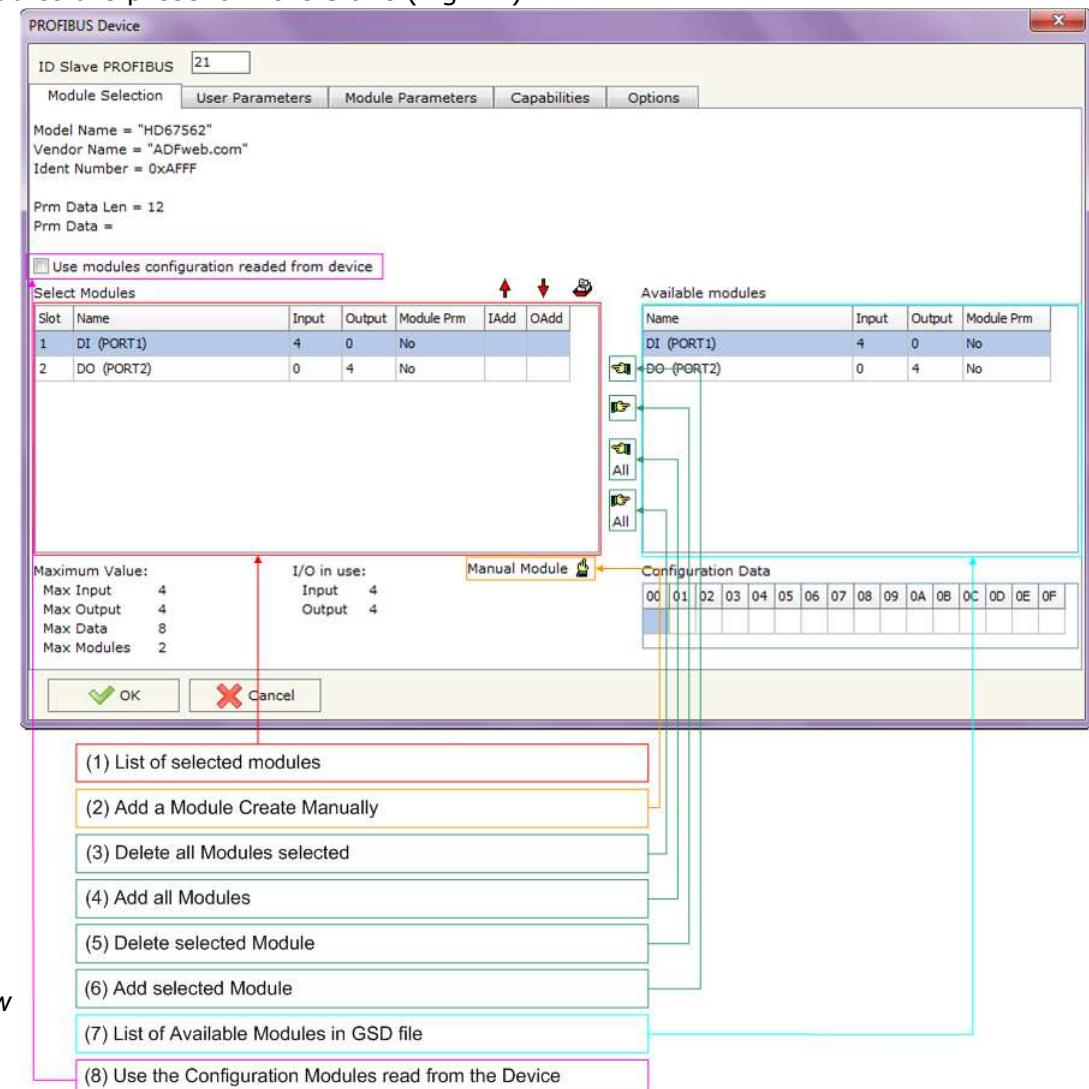
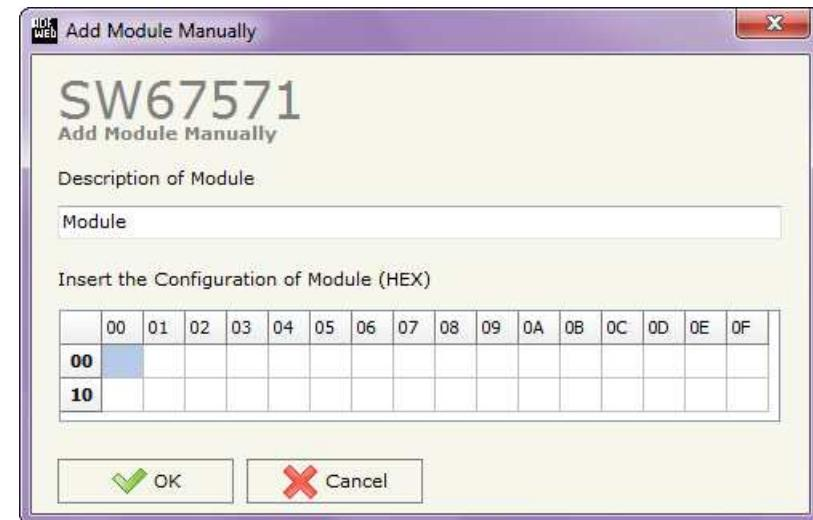

Figure 11: “PROFIBUS Device – Module Selection” window
Figure 12: “Add/Modify Module Manually” window
The section “**Module Selection**” is used to select which Modules are present in the Slave (Fig. 11).
- ◆ Check the list of the Modules selected (“Select Modules”) (Fig. 11, point (1)) and the list of Modules Available in GSD file (“Available Modules”) (Fig. 11, point (7));
- ◆ Add a Module from the list of GSD file (Fig. 11, point (6));
- ◆ Remove a Module from selected list (Fig. 11, point (5));
- ◆ Add all Modules present in the GSD file (Fig. 11, point (4));
- ◆ Remove all Modules from selected list (Fig. 11, point (3));
- ◆ Insert a Module not present in the GSD file (“**Manual Module**”) (Fig. 11 point (2)). For more info see the section “Manual Module” below;
- ◆ Enable the read of configuration directly from the PROFIBUS Slave (“**Use module configuration readed from device**”) (Fig 11, point (8)). If this option is enable the configuration of the modules is discarded and the device read the correct configuration directly to the PROFIBUS slave.
By pressing the “**Manual Module**” button from the “PROFIBUS Device” window (Fig. 11) the “Add Module Manually” window appears (Fig. 12).
To modify a Module inserted manually, is necessary to do a double click on the module to change in the “Select Module” list (Fig. 11, point (1)). It is possible to change only the module inserted manually.